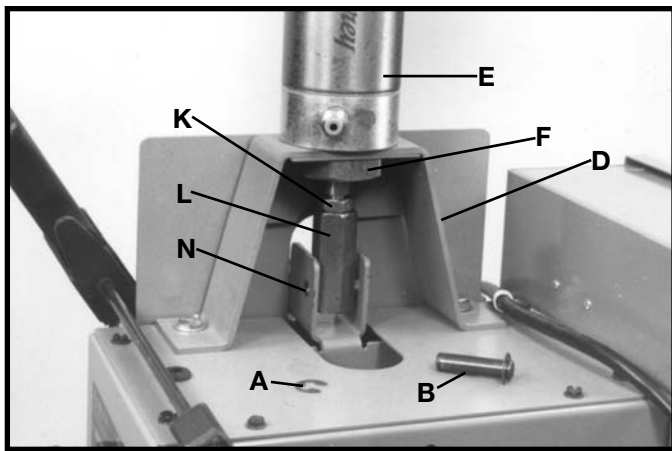
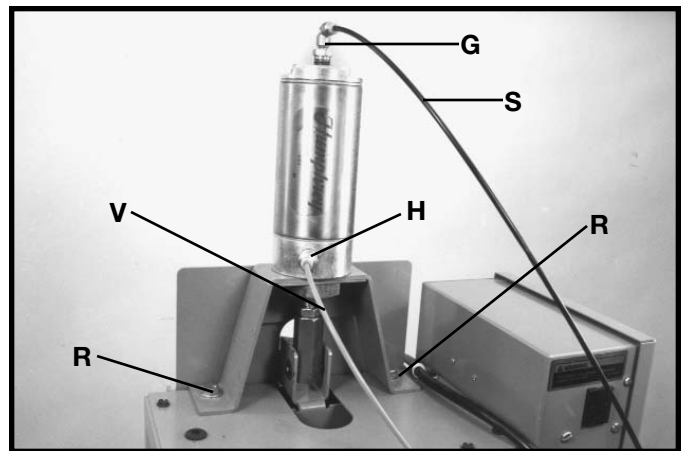

Fig. 27
Fig. 28
4. Make certain air cylinder rod is retracted completely into cylinder (E) Fig. 27. Loosen locknut (K) Fig. 27, and unscrew hex end of clevis rod (L) until holes line up with holes in bracket (N). Using retaining clip (A) and retaining pin (B), which were removed in **STEP 1**, fasten clevis (L) to bracket (N). Retighten locknut (K) Fig. 27. **NOTE:** It may be necessary to loosen screws (R) Fig. 28, in order to get pin to line up with clevis.
5. Insert black air supply line (S) Fig. 28, into top fitting (G) of the air cylinder and blue air supply line (V) into bottom fitting (H) of the air cylinder as shown. **NOTE:** Push end of air lines as far as they will go into the fittings.